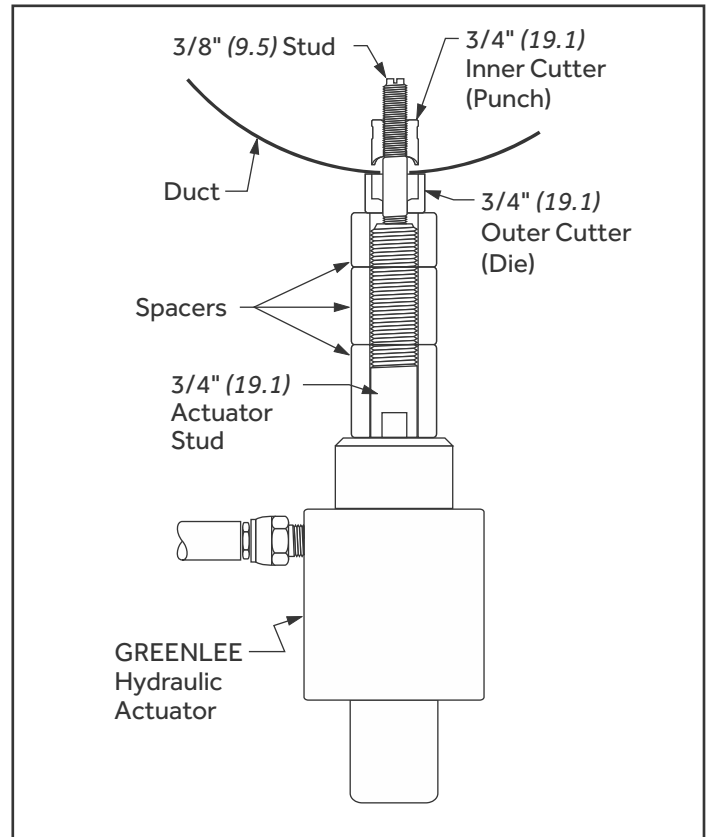

Fig. 31: 3/4" (19.1) Hydraulic Punch Configuration
- 2. 3/4" (19.1) Punch:** From the Hydraulic punch kit thread the 3/8" (9.5) stud into end of 3/4" (19.1) draw stud of the Greenlee hydraulic actuator. Slide the three spacers onto the 3/4" (19.1) actuator draw stud. Slide the 3/4" (19.1) die onto the 3/8" (9.5) stud with the open end of the die facing away from the actuator. Insert the 3/8" (9.5) stud through the 3/8" (9.5) pilot hole. From inside the duct, thread the matching 3/4" (19.1) punch onto the 3/8" (9.5) stud with the cutting surfaces of the punch toward the duct. Continue threading the punch by hand until the die, duct and punch are snug. Operate the hydraulic actuator to draw the punch through the duct material. Remove the punch, die, 3/8" (9.5) stud and spacers. (Fig. 31)